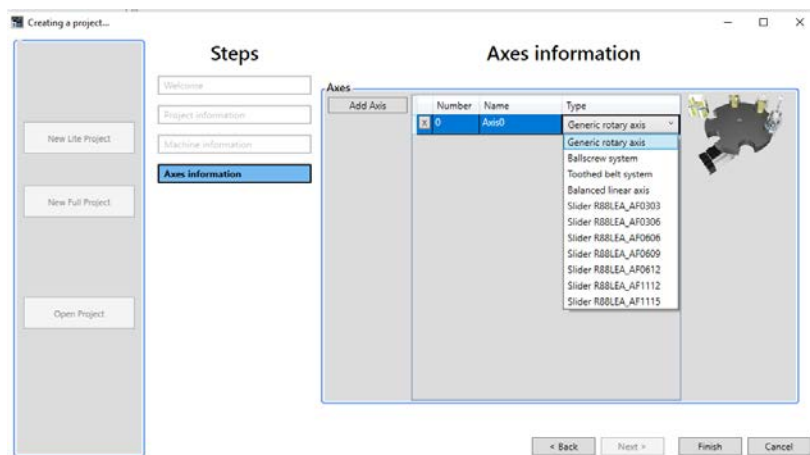

Fig. 9 Axes information Window
- **Axes information Step:** ask for the general configuration of the machine. The 'Predefined axes' must be inserted into the defined machine. See Fig. 9.